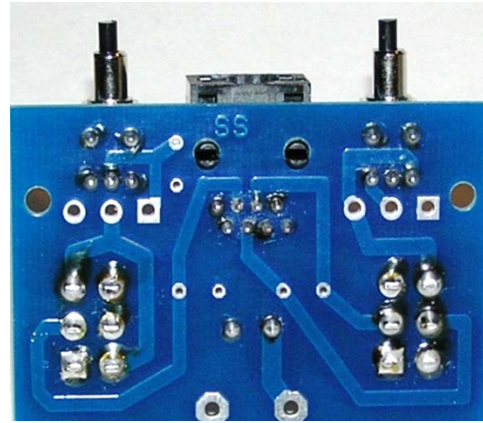
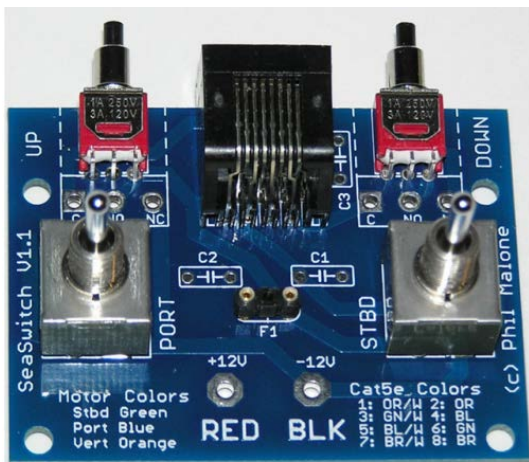

Figure 3.3-6: Bottom of a PCB after Soldering All Components
Figure 3.3-7: A Completed PCB
7. Re-examine all of the solder connections on the PCB as a final check for solder bridges or connections that don't seem to have enough solder. Re-solder them if needed. The soldered side of the completed PCB should look similar to the one shown in Figure 3.3-6. The completed PCB should look like Figure 3.3-7.